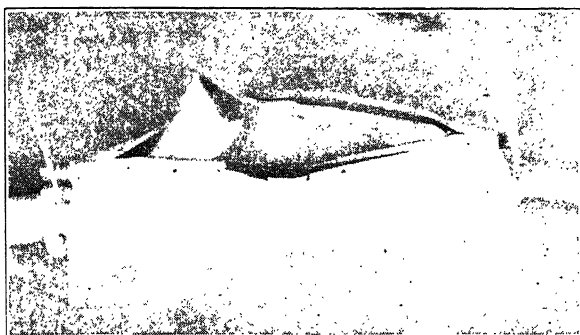

Fig. 12. A Muffler Which Was "Shot"
**Muffler Abuse.** The abuse of the muffler is dangerous to the muffler, to the car, and to the public. Fig. 12 illustrates a muffler